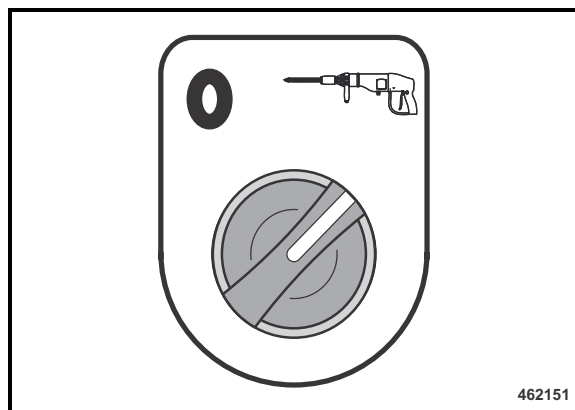

Fig. 94
- Turn the rotary switch for hydraulic breaker (Fig. 94) clockwise.